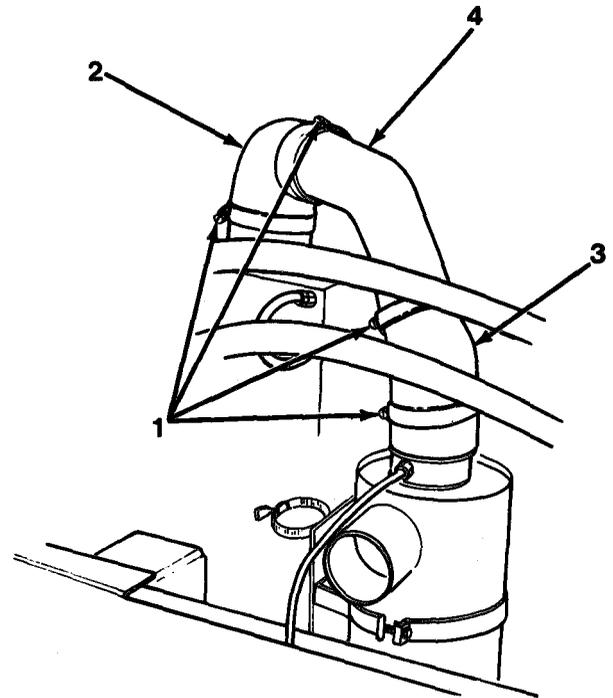

Figure 6-1
6. Install air cleaner (7) and tighten two mounting bands (14) by installing two nuts (6) and screws (5).
7. Install tube (4), four clamps (1) and elbows (3) and (2, Figure 6-1).
8. Tighten four clamps (1).